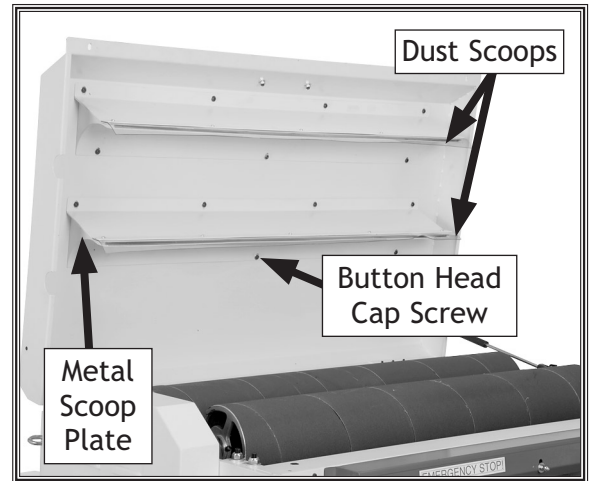

Figure 62. Location to adjust dust scoop.
3. Loosen the button head cap screws and acorn nuts securing a metal scoop plate to the top cover (Figure 62), move the scoop up a little, tighten the cap screws and nuts, close the top cover, and rotate the V-belt to see if the drum scrapes the scoop.